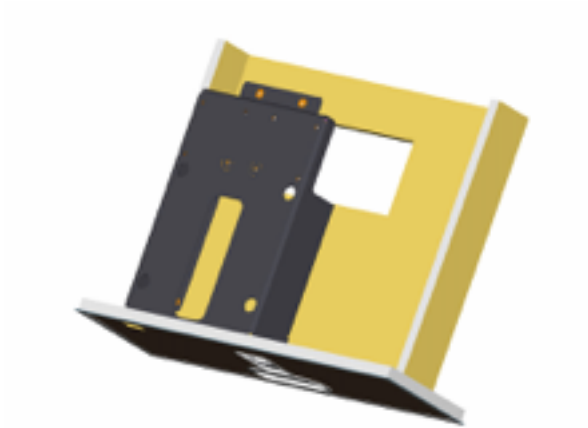

FIGURE 4 - FORWARD GALLEY VCC MONUMENT TOP DRAWER WITH DU BRACKET
- » The installation of a mounting bracket for the future installation of a DU in the top drawer of the VCC located in the forward galley. The modification will require a bracket to be installed on the bottom surface of the top drawer (see Figure 4).